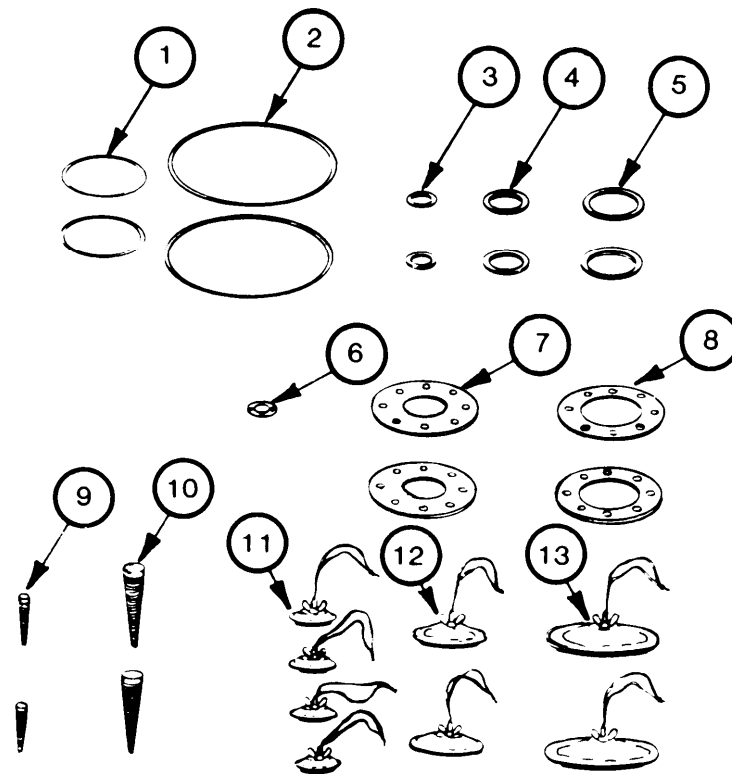

Figure 1-6. Repair Items
f. Repair Items (See Figure 1-6). Repair items are provided with the tank. These repair items are used when performing on-site maintenance of the fuel tank. The following repair items are supplied with the tank.
(1)	Vent and drain fitting O-ring.....	2 Ea.
(2)	Filler/discharge fitting O-ring.....	2 Ea.
(3)	2 inch quick-disconnect gasket.....	2 Ea.
(4)	3 inch quick-disconnect gasket.....	2 Ea.
(5)	4 inch quick-disconnect gasket.....	2 Ea.
(6)	11/16 inch flange gasket.....	1 Ea.
(7)	3 inch flange gasket.....	2 Ea.
(8)	4 inch flange gasket.....	2 Ea.
(9)	3 inch repair plug.....	2 Ea.
(10)	5 inch repair plug.....	2 Ea.